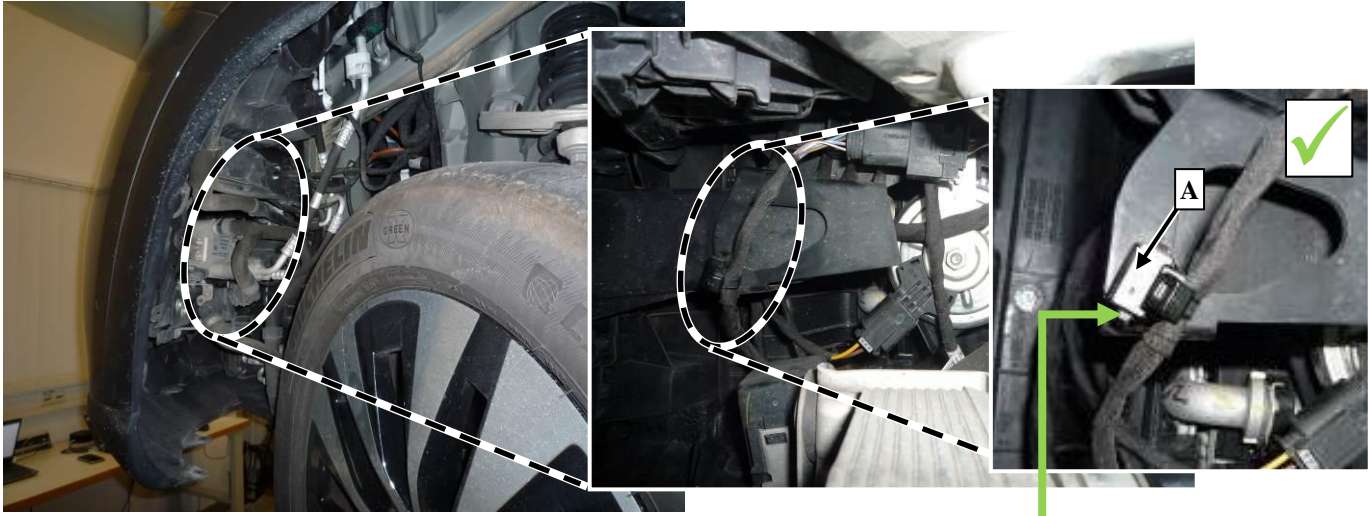

Figure 2
2. Check the wiring harness bracket (**Figure 2, A**) for the frontal acceleration sensor to ensure it is assembled correctly.
i Correct assembly position: (**Figure 2, A**).
- a. Wiring harness bracket **correctly** (**Figure 2, A**) installed: **End measure**.
2. Fit wiring harness bracket correctly as shown (**Figure 2, A**).